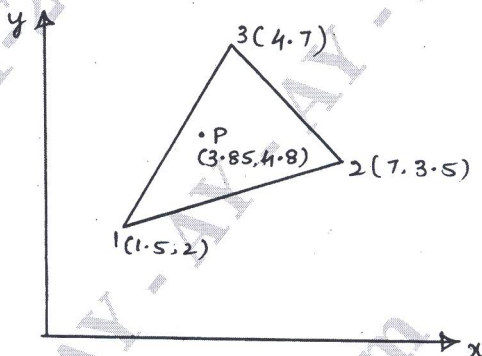

Fig Q4(b)
- b. Evaluate the shape functions N_1, N_2 and N_3 at the interior point 'P' for the triangular element shown in Fig Q4(b).